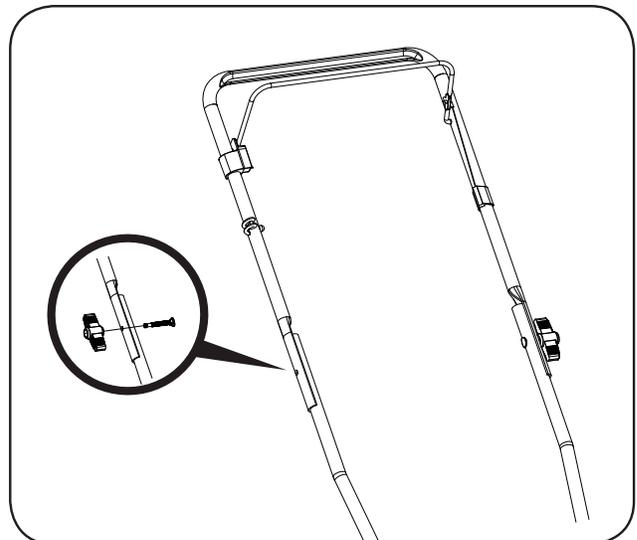

Figure 4
3. Reinforce the connection between upper handle with lower handle by tighten two handle connecting knobs (Figure 4).